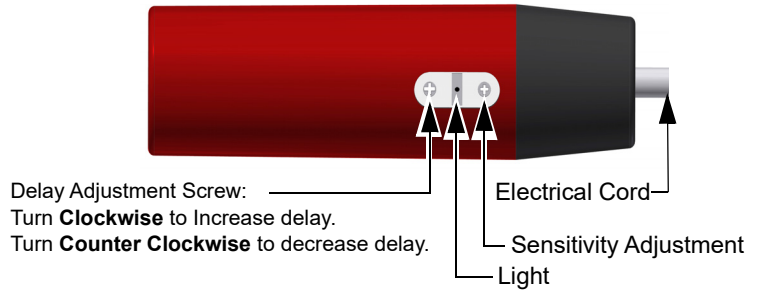

Figure 3. Proximity Switch
- A. Use a small screw driver provided to turn the Delay Adjustment Screw (see Figure 3). Turn the screw counterclockwise until the light stays on. This sets the Proximity Switch to the lowest setting (1 second).